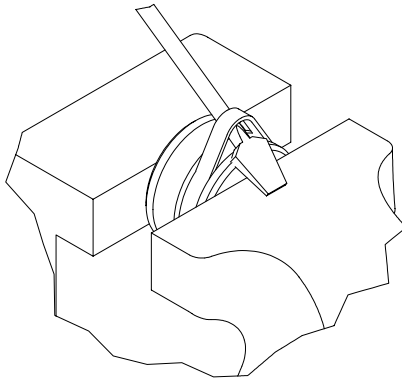

Figure 5-4, Piston Seal
8. Carefully pry up on the piston seals using a blunt tip screw driver being careful not to scratch the seal grooves. Cut the seals to remove from the piston. (Figure 5-4)